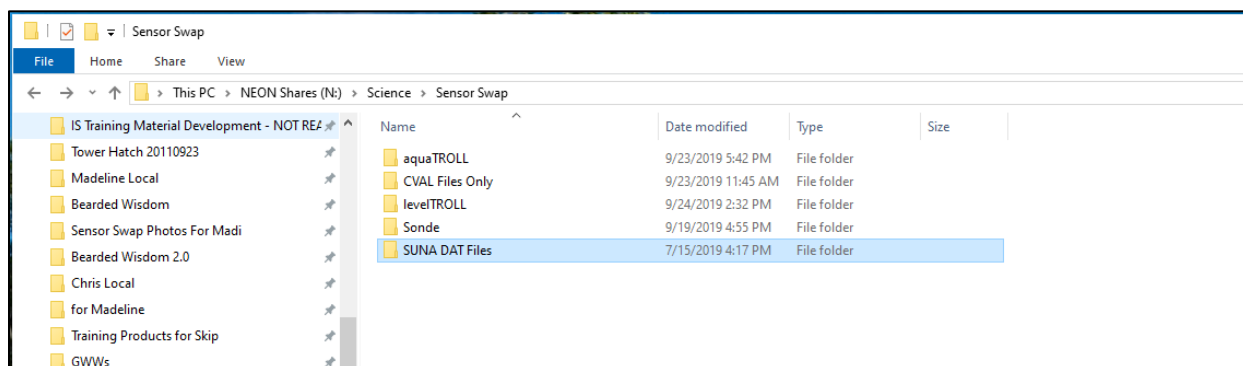
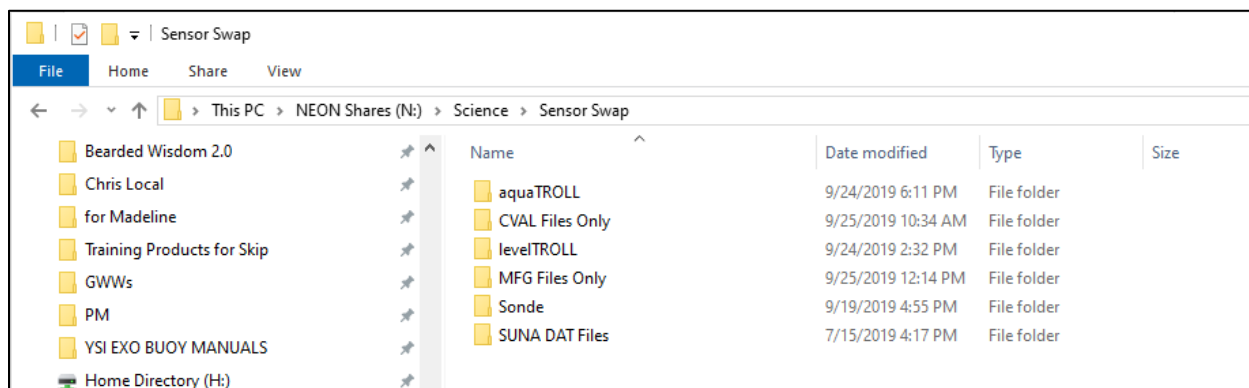

Figure 13. N:\Science\Sensor Swap
Figure 14. CVAL Files Only and MFG Files Only Folder
1. After returning to the Domain Support Facility or via VPN, change the name of the DAT files to **“SITE_ASSET TAG_DYYYYDDD.csv”** and save a copy of each .csv data files to the Network drive in the following folder (**Figure 13**): **N:\Science\Sensor Swap\SUNA DAT Files**
- Field Science must drop the files in the **SUNA DAT Files** folder shown in Figure 13 under the prescribed naming convention above. CVAL files go into the **CVAL Files Only** folder and Manufacturing files go into the **MFG Files Only** folder (Figure 14).